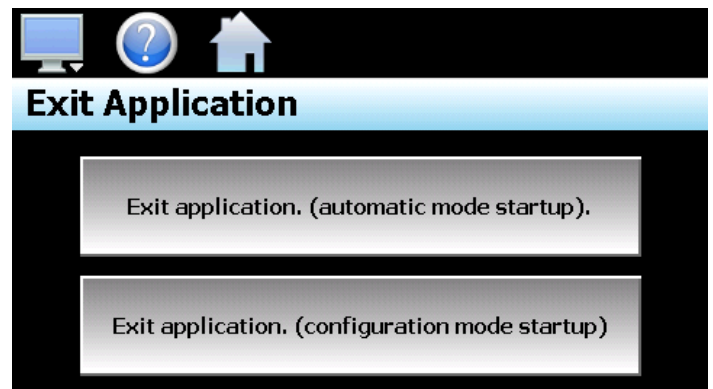

Fig. 119: Exit Screen
2. The EXIT screen appears (Fig. 119). The table below explains the button options and their functions.
2. At the Exit Application screen (Fig. 119), press the EXIT APPLICATION (AUTOMATIC MODE STARTUP) button.